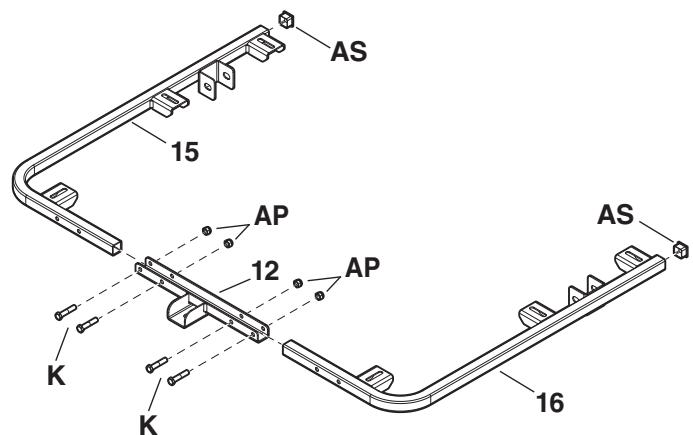

FIGURE 9
- Insert a square plug (AS) into the long end of the LH frame (16) and the RH frame (15) as shown below.
- Position the LH Frame (16) and RH Frame (15) as shown below.
- Place both frame assemblies into the latch weldment assembly (12) lining up the two holes on each frame assembly. The latch weldment assembly (12) needs to be facing as shown below.
- Install two 5/16" x 1-3/4" bolts (K) from the front through the assemblies on both sides.
- Secure with two 5/16" nylock nuts (AP) on each side. Tighten hardware. See figure 9.